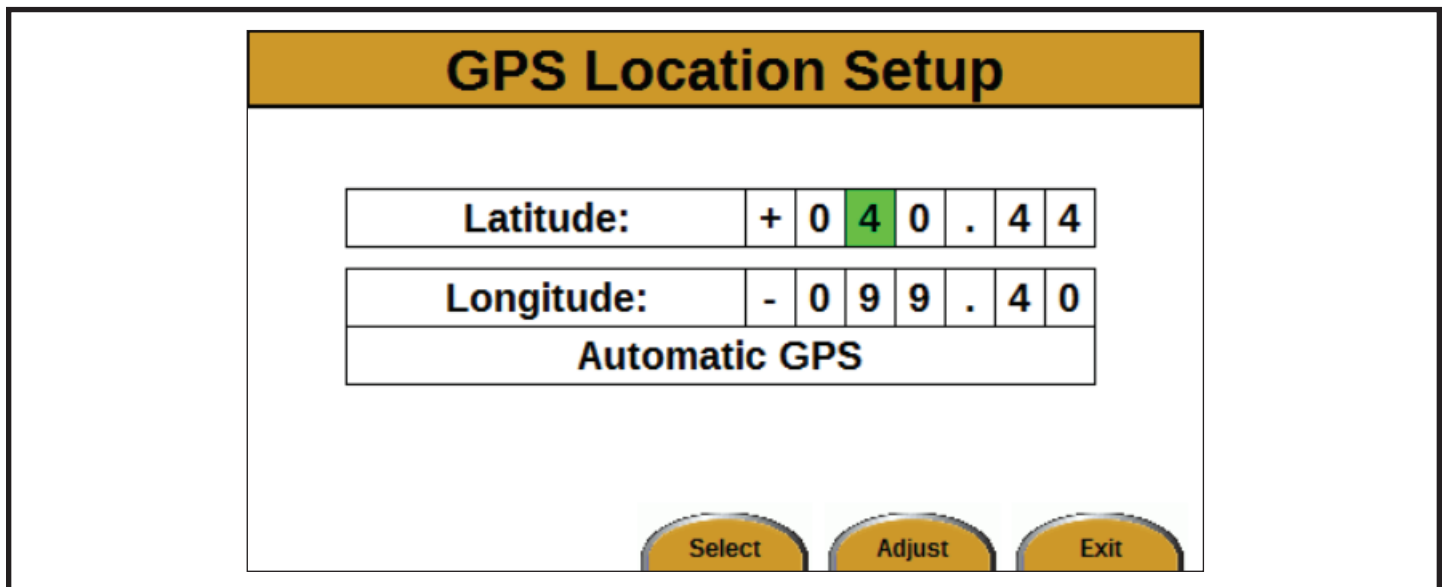

Figure 11
4. Press the Enter button. The GPS Location Setup screen will appear (see Figure 11).